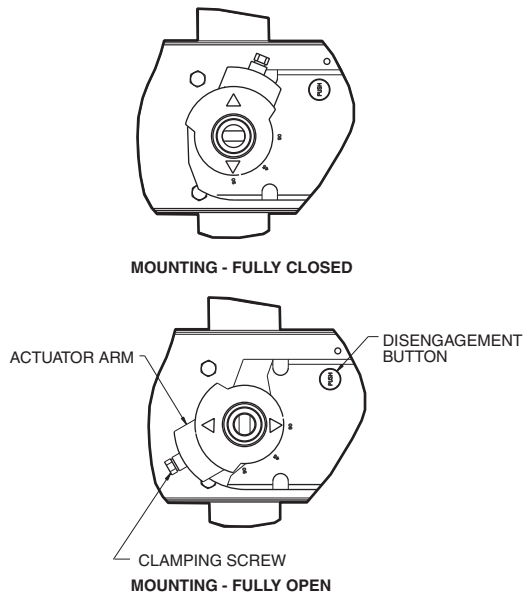

**Fig. 43 —Ball Valve Motor**
See Fig. 43 for a view of the ball valve motor mounting with a fully open valve. The motor actuator arm should be at a counterclockwise position, with the valve shaft in a parallel position. If not in a parallel position, loosen the clamping screw and push the disengagement button to rotate the actuator arm until it stops. Retighten the clamping screw.
2. With the compressor off hold down the Disengagement (Push) button. See Fig. 43.